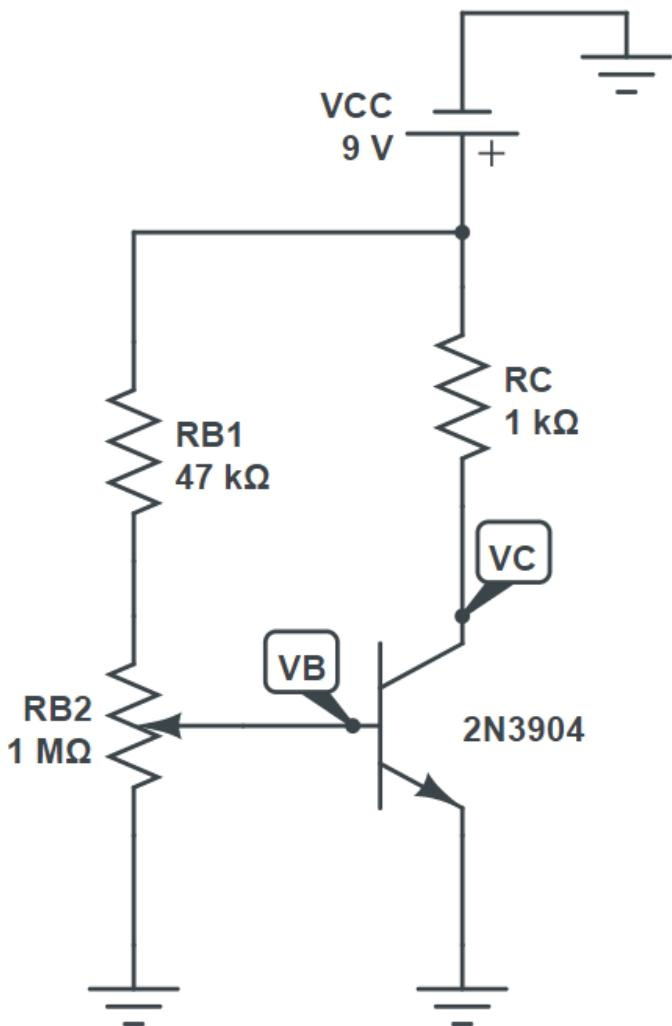

FIGURE 6.1-3: Schematic diagram of circuit
7. Disconnect the power from the breadboard and rewire the circuit according to Figure 6.1-3. The 560 kΩ resistor (R_B) will be replaced with a 1 MΩ potentiometer in series with a 47 kΩ